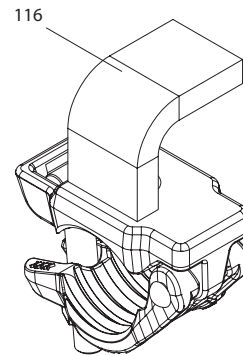

Fig. A10.09
The Flange Coupling UEC (116)(Fig. A10.09) has been replaced by the Flange Coupling UEF (86). The Flange Coupling UEC can still be used, but has a lower load capacity compared to the Flange Coupling UEF. It may only be mounted on horizontal flange supports.